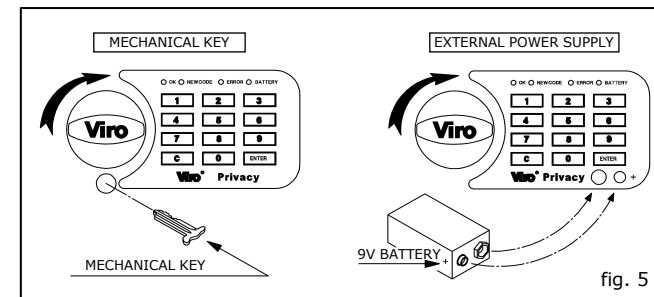

fig. 5
- Remove the plastic top placed down the knob in order to access the key hub (see fig. 5).
- Press the battery endings to the special connectors on the keypad (see fig. 5) **paying attention to the polarity:** the "OK" green LED will blink slightly.